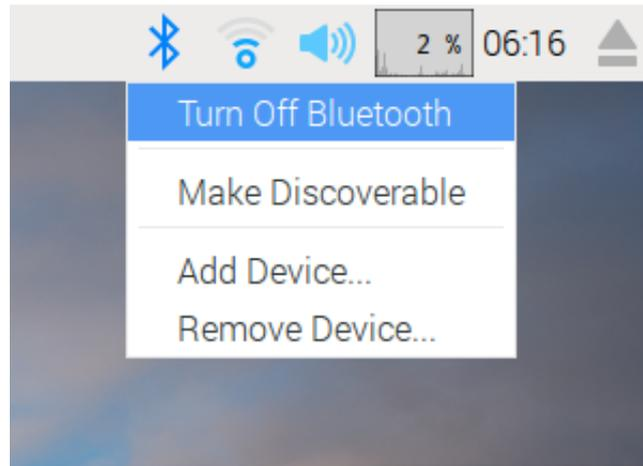

Figure 3: Switch off the Bluetooth and connect to internet via WiFi
3. After booting the Raspberry, switch off the Bluetooth interface by clicking on the Bluetooth button on the right upper corner of the screen (see figure 3).